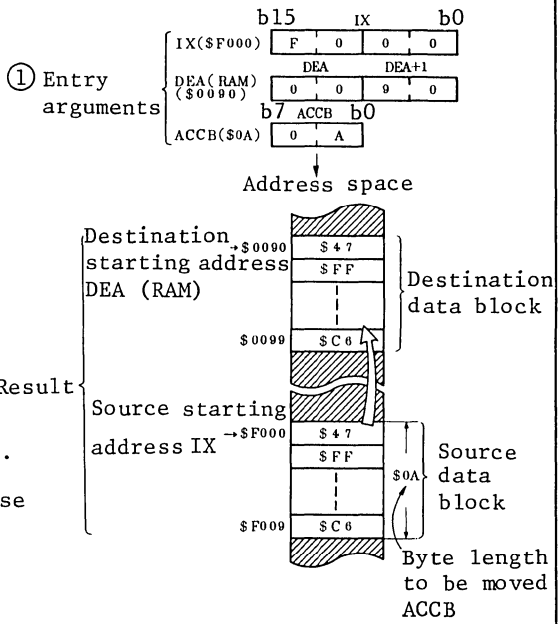

Fig. 1 Example of MOVE execution
(b) Fig. 1 shows example of MOVE execution.
If entry arguments are as shown in part ① of Fig. 1, data in source (\$F000 - \$F009) is moved to destination (\$0090 - \$0099) as shown in part ② of Fig. 1.